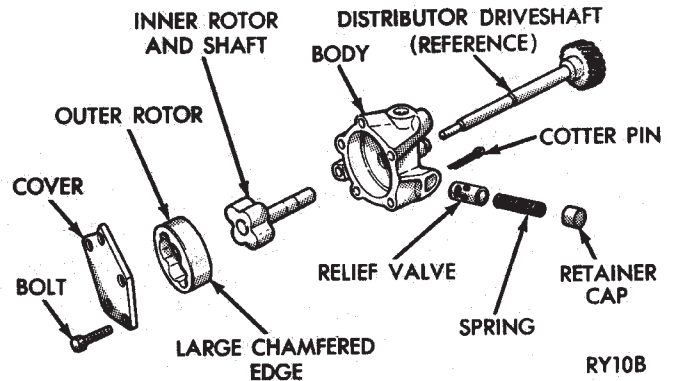

Fig. 57 Oil Pump
- (2) Remove oil pump cover (Fig. 57).
- (3) Remove pump outer rotor and inner rotor with shaft (Fig. 57).
- (4) Wash all parts in a suitable solvent and inspect carefully for damage or wear.